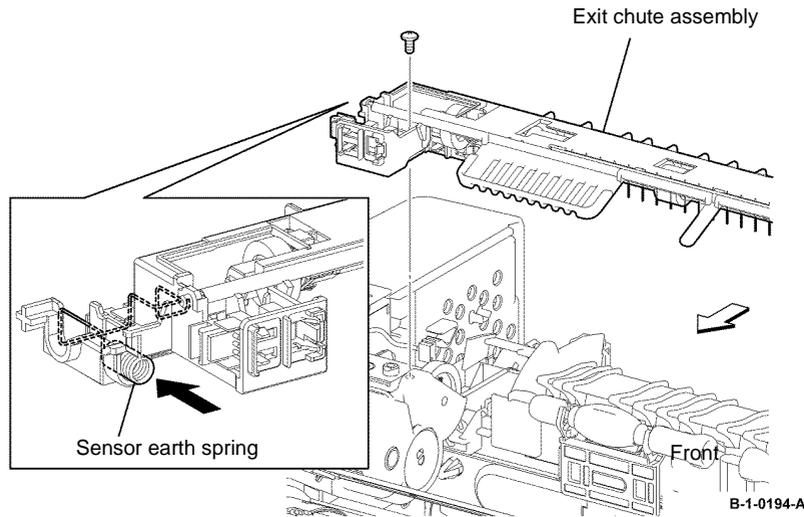

Figure 2 Exit chute assembly installation
2. When installing the exit chute assembly, ensure the end of the sensor earth spring is in contact with the plate on the frame, Figure 2.